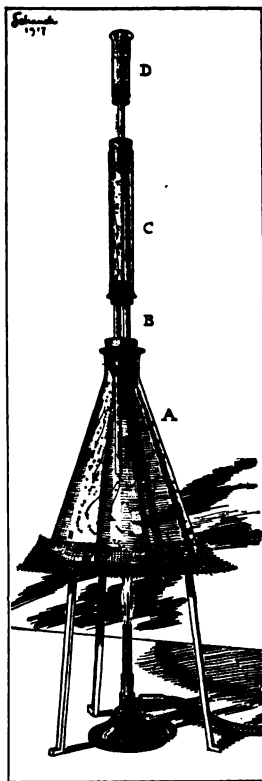

FIG. 150. Apparatus illustrating a hot-water heating system.
**Exercise 5.** Set up a piece of apparatus like that shown in Figure 150 to represent a hot-water heating system. The flask *A* corresponds to the furnace, *B* and *C* to the pipes and radiator of the heating system, and *D* to the expansion tank, which is usually placed in the attic or upper part of the house. To show the currents add litmus or other colored liquid to *C*.